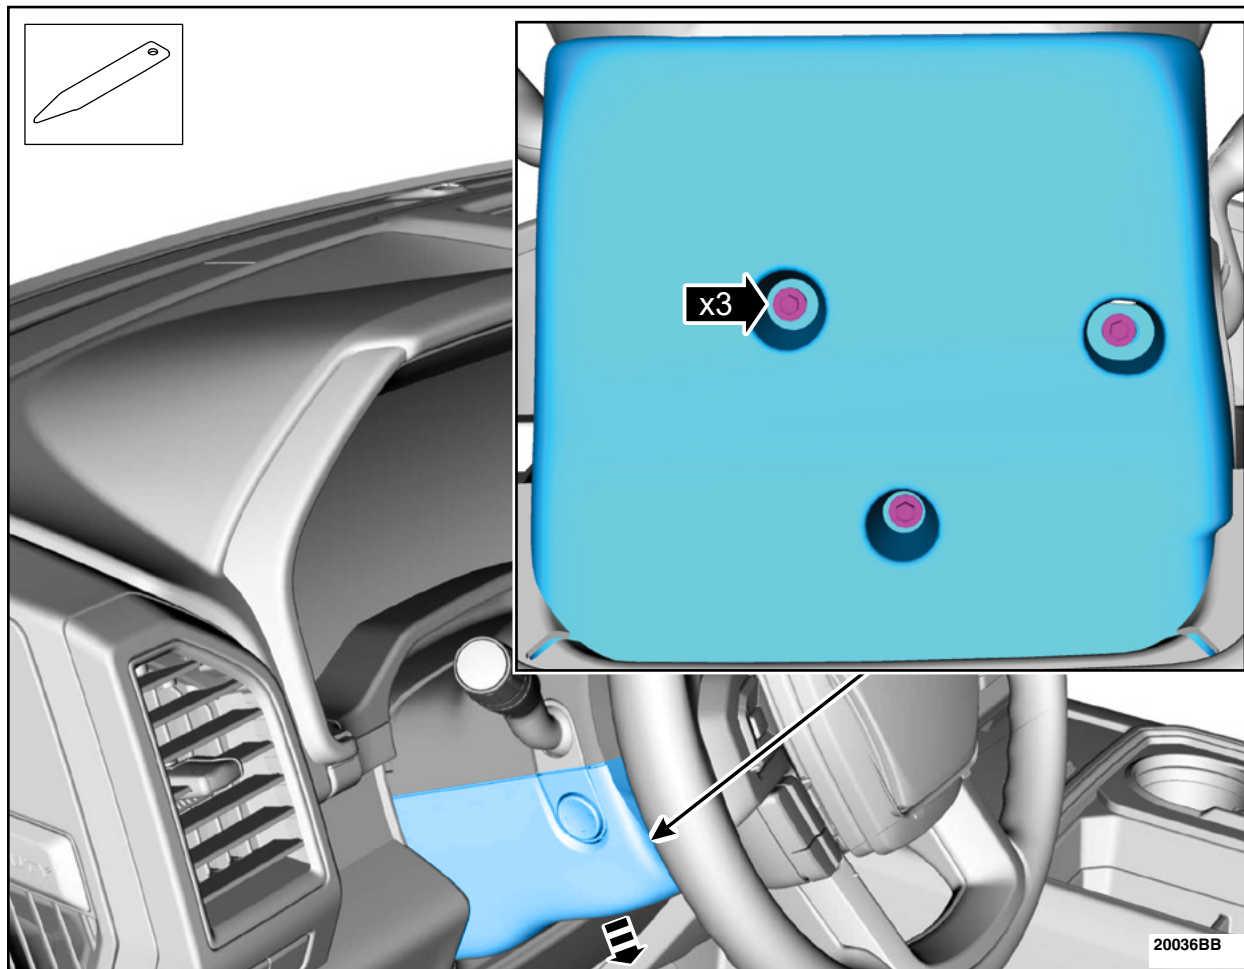

FIGURE 25
43. Remove the bolts and the lower steering column shroud. See Figure 25.